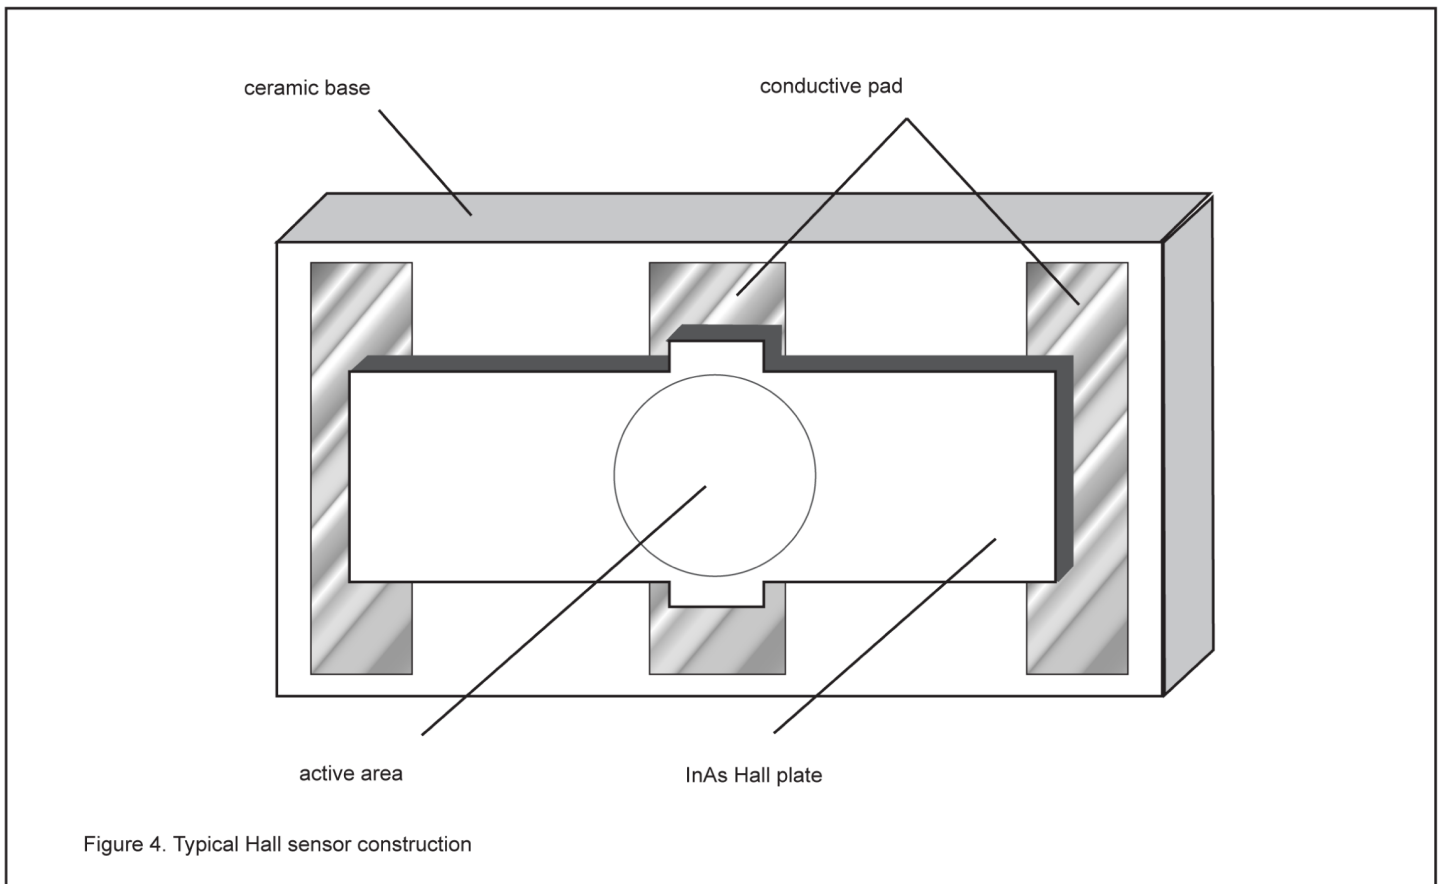

Figure 4. Typical Hall sensor construction
Modern Hall-effect devices, commonly called Hall generators, consist of a thin, rectangular or square sheet of Si, GaAs, InSb or InAs, to which four contacts are made (Figure 4). This is commonly called a Hall plate. Often the plate is affixed to a ceramic substrate which provides improved mechanical support and thermal stability, or wire-bonded to a nonmagnetic lead frame and encapsulated. Sensitivity is greatest when the angle between the plate and the flux lines is 90°. One particularly useful aspect of a Hall device is its sensitivity to the direction of flux travel, allowing for accurate sensing of both bipolar static (DC) and alternating (AC) magnetic fields.